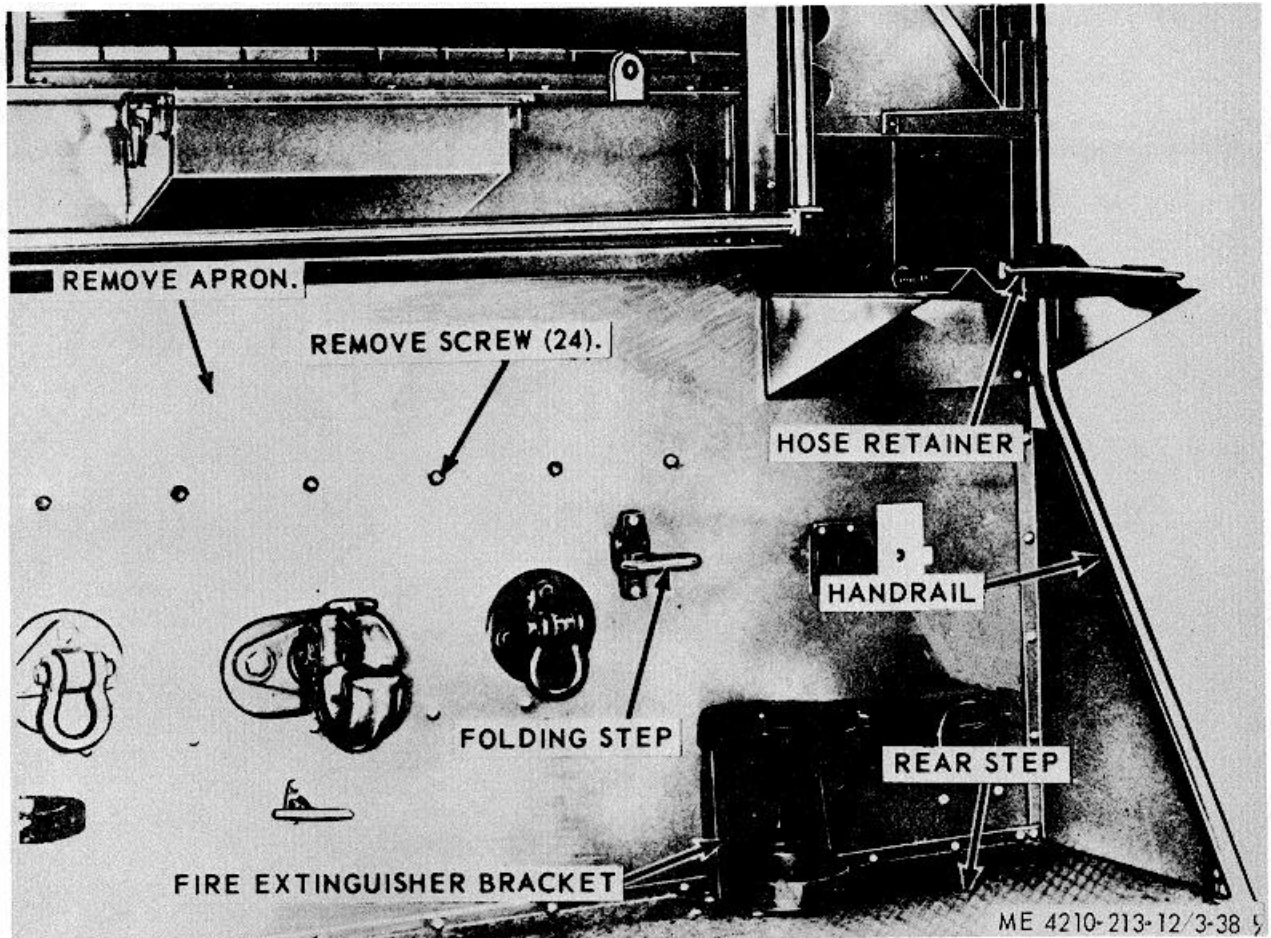

Figure 3-38. Apron, removal and installation.
- (1) Remove the rear step (para 3-30).
- (2) Remove the hose retainers (para 3-33 and 3-34).
- (3) Remove the receptacles (para 3-75).
- (4) Remove the shovel bracket (para 3-31).
- (5) Remove the folding step (para 3-35).
- (6) Refer to figure 3-38, and remove the apron from the special purpose body.
- (1) Refer to figure 3-38, and install the apron on the special purpose body.
- (2) Install the folding step (para 3-35).
- (3) Install the shovel bracket (para 3-31).
- (4) Install the receptacles (para 3-75).
- (5) Install the hose retainers (para 3-33 and 3-45).
- (6) Install the rear step (para 3-30).